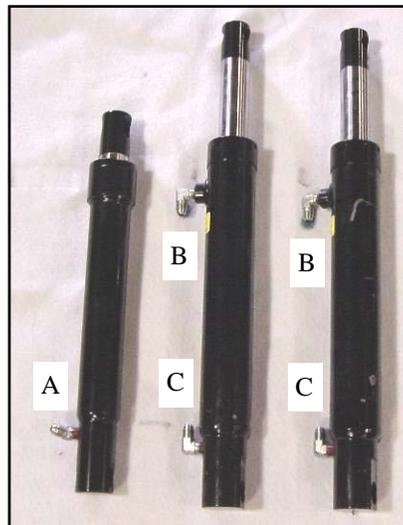

Fig. 2.1 (view of hydraulic cylinders)
2.1 Fig. 2.1 shows three hydraulic cylinders. The left-most cylinder shown is a small, single-acting cylinder (1-1/2" diameter x 10" stroke). On this unit, install a 45 degree fitting at location "A". Use a suitable paste type pipe sealer on the threads (i.e.: 3M, Great White, etc.), **do not use Teflon tape**. Leave this one fitting loose, final orientation will be determined in step 8.6 on page 9. The next two, large cylinders are both double-acting (2" diameter x 10" stroke). On these units, install 90 degree fittings at locations "B" and "C". Use a suitable paste type pipe sealer on the threads (i.e.: 3M, Great White, etc.), **do not use Teflon tape**. The final orientation is to have the fittings pointing towards each other as shown. In the photo, fitting "B" is to point down and fitting "C" is to point up. Tighten these four 90 degree fittings.